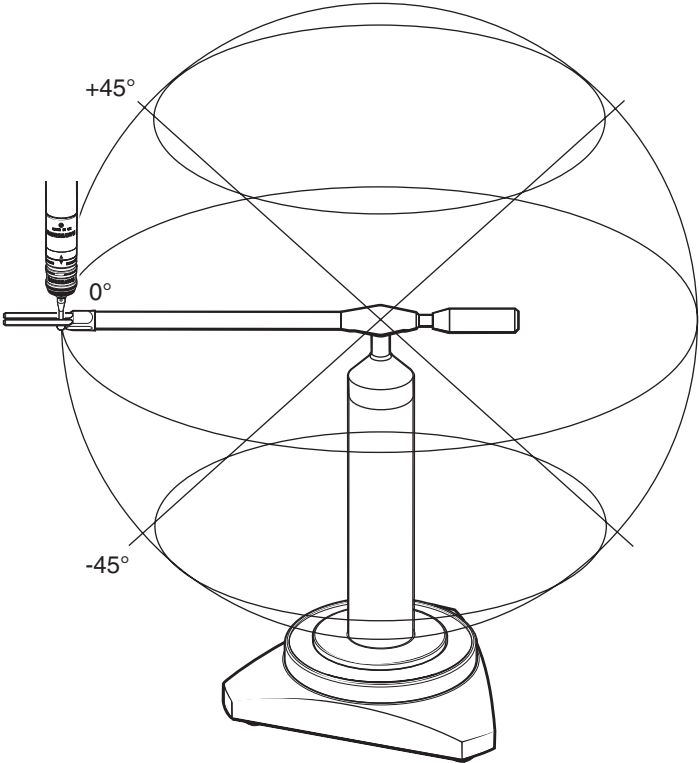

Figure 13 - Arm elevation
1. **Arm elevation 0°** - measure the arm radius R at 45° intervals in the horizontal plane (a total of eight measurements) as shown in figures 13 and 14.
2. **Arm elevation -45°** - measure the arm radius R at 45° intervals in the horizontal plane (a total of eight measurements) as shown in figures 13 and 14.
3. **Arm elevation +45°** - measure the arm radius R at 45° intervals in the horizontal plane (a total of eight measurements) as shown in figures 13 and 14.